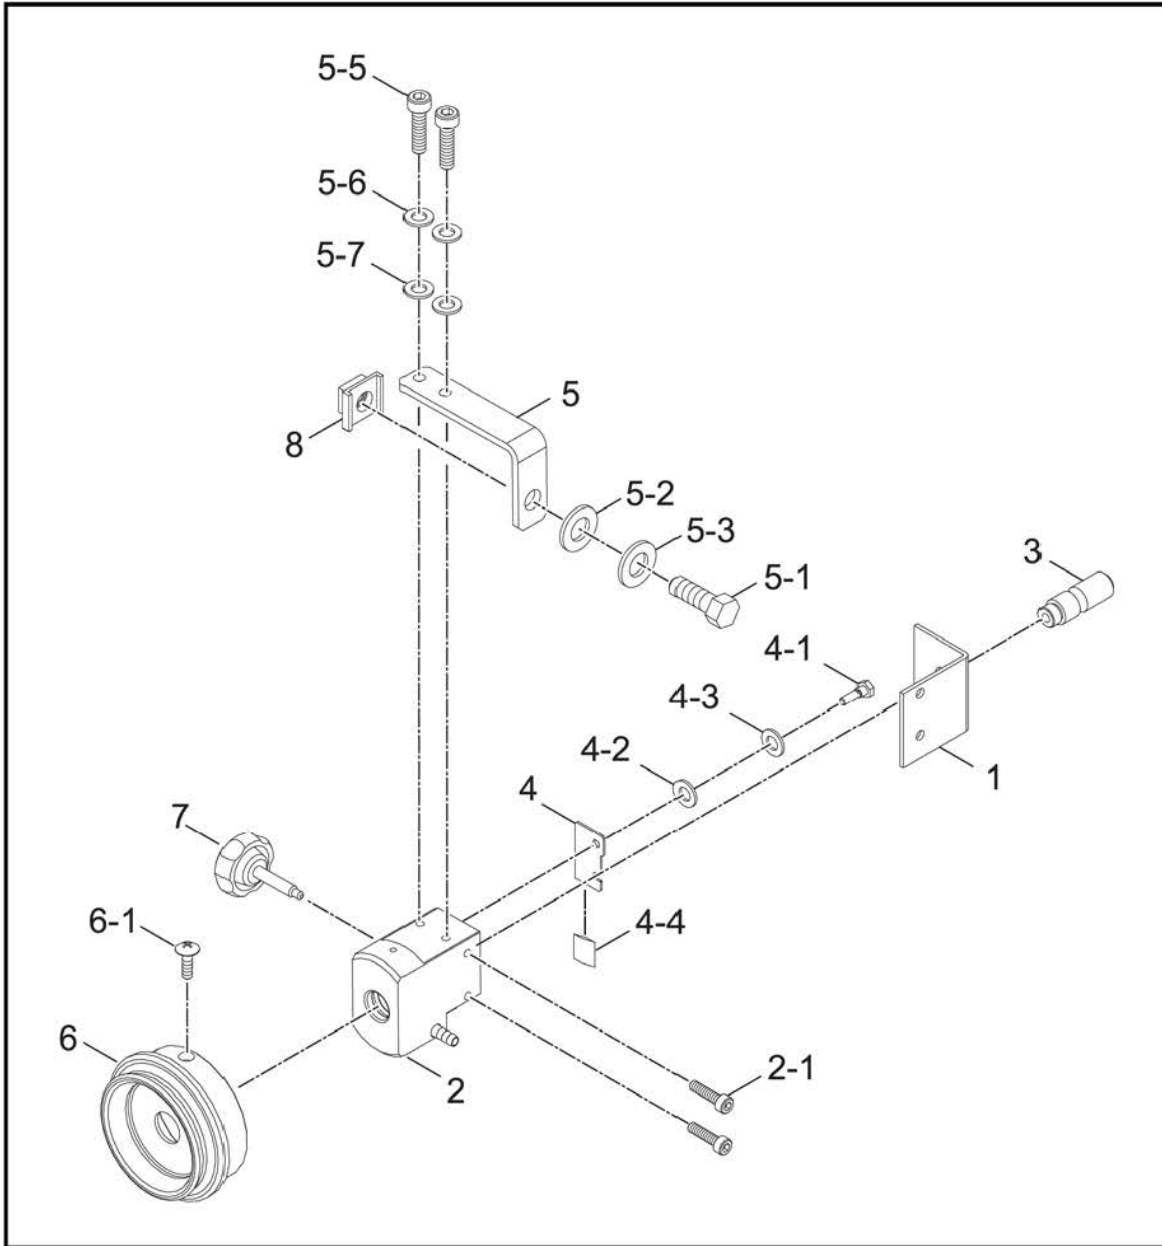

Fig.12 Torch Adaptor NO.4 (K5975D00)
9.12. Torch Adaptor NO.4 (Fig.12)